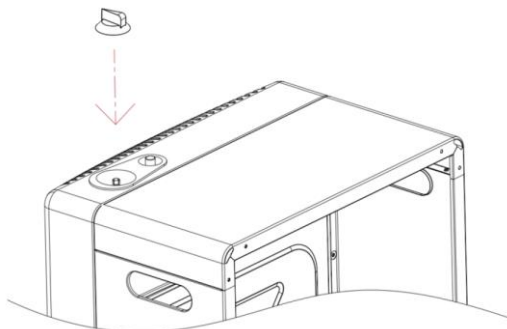

Fig. 5
5. Install the plastic flame regulator knob on the gas valve (see fig. 5)